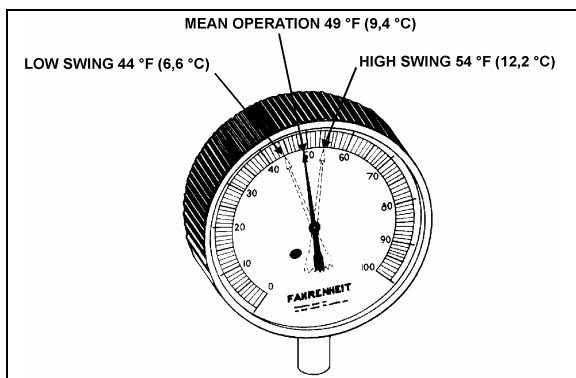

FIGURE 37: HIGH & LOW SWING TEMPERATURE AT REMOTE BULB22047
6. Check approximately 5 readings of pressure at 2-minute intervals and convert to temperature using the temperatures & pressures table (page 36). Likewise check the temperature reading at the remote bulb at the same 2-minute intervals and record the low and high swing readings of the needle (refer to Fig. 37).
Example of readings taken at fig. 37: